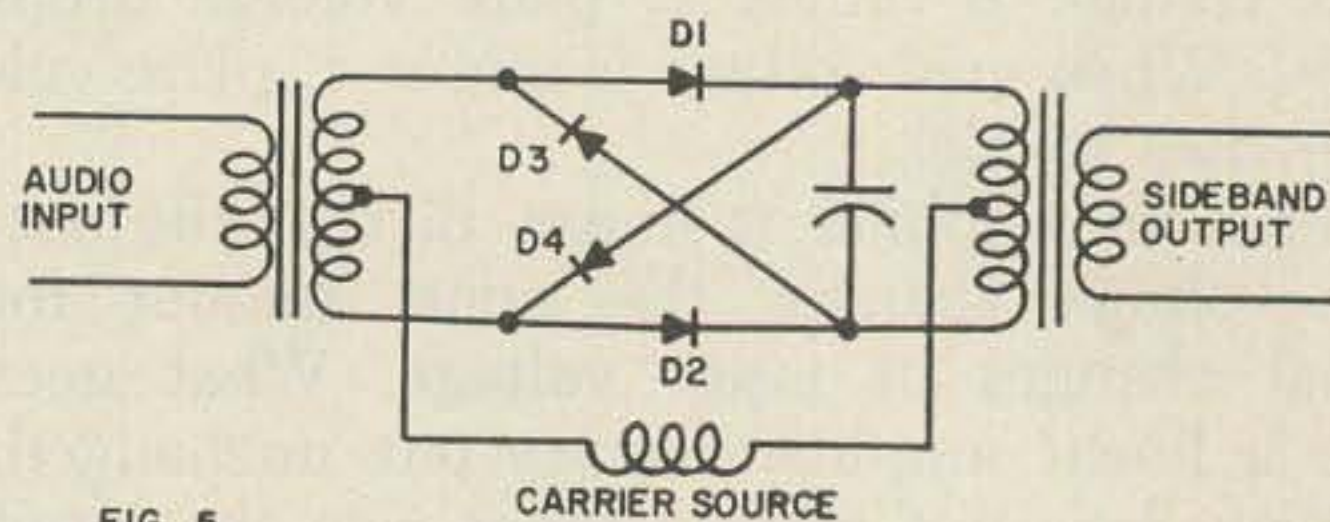
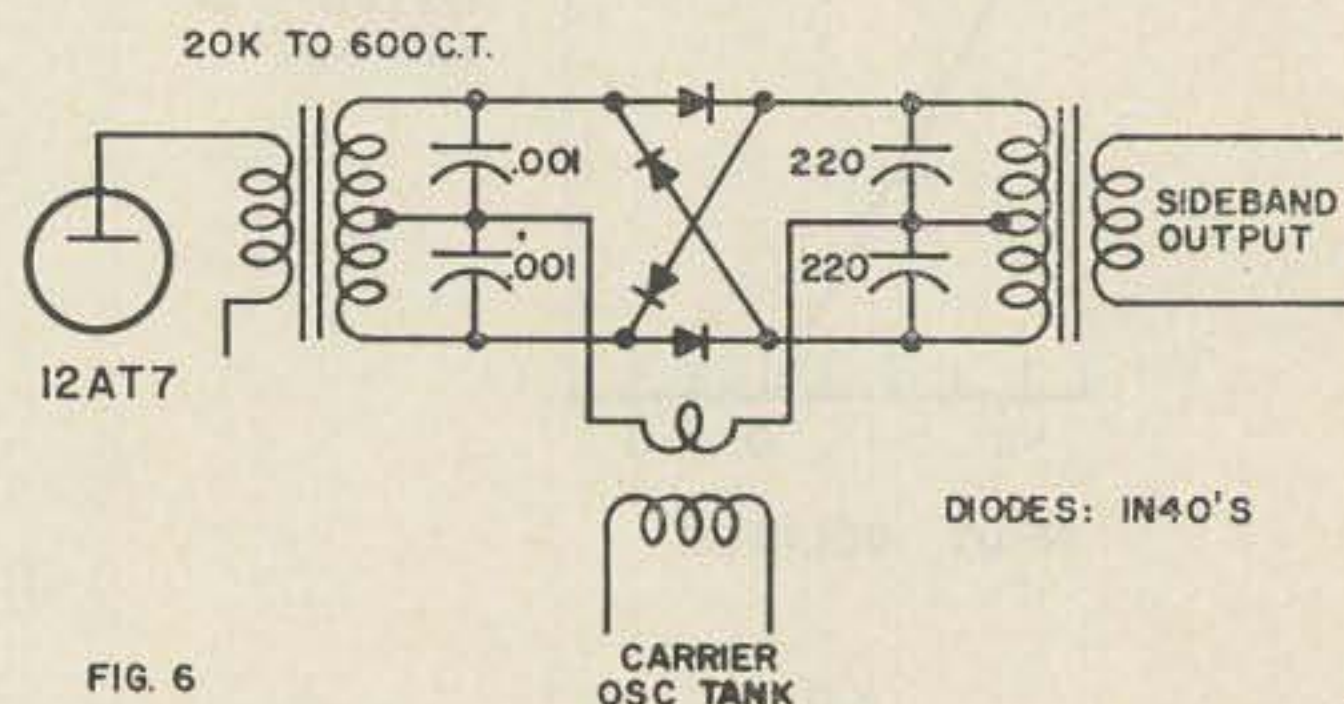

FIG. 5
FIG. 6
**The Ring Modulator.** This modulator is usually referred to as the "classic ring" circuit, since it was developed by telephone engineers in the very early days of commercial sideband and is possibly the oldest balanced-modulator circuit. A typical ring-modulator circuit is shown in Fig. 5, and one suitable for ham use in the 455 Kc region appears in Fig. 6 with parts values.